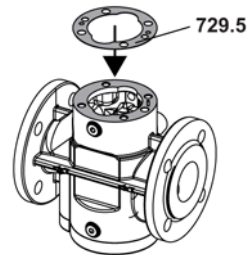

Fig. 29
6. Bond the new flat gasket **729.5** onto the pump housing, see Fig. 29.